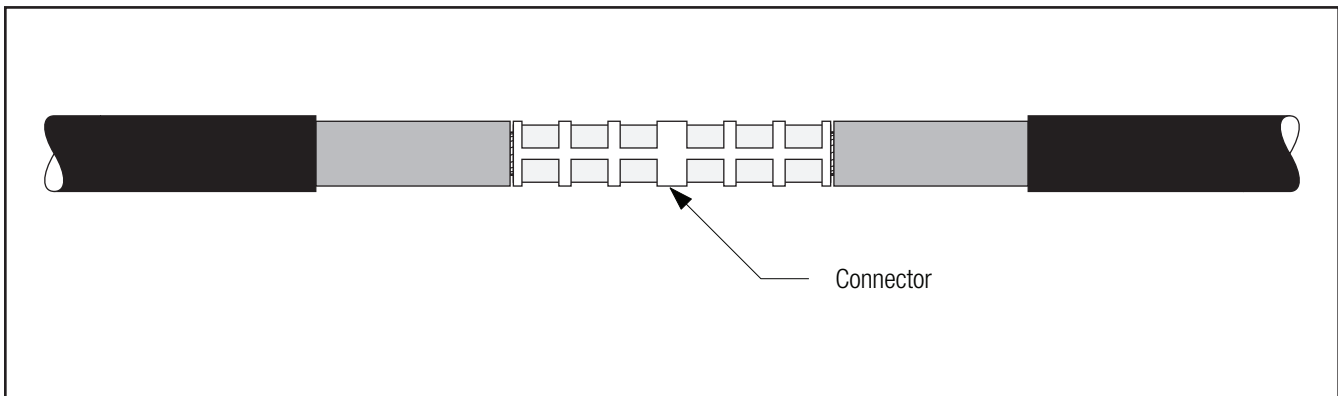

Figure 8
- 3.5 Install connector. See table (on cover) for proper connector dimensions. (For standard 3M™ Connectors, refer to table at the end of this instruction for crimping information). Remove any excess oxidation inhibitor from connector ends if aluminum connector is used. File sharp connector flashing if necessary, taking care to remove all metal filings from splice area (Figure 8).